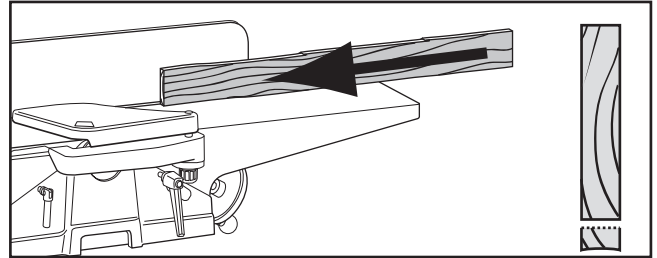

Figure 43. Edge jointing on the jointer.
3. **Edge Joint on the Jointer:** The concave edge of the workpiece is jointed flat with the jointer (see **Figure 43**).